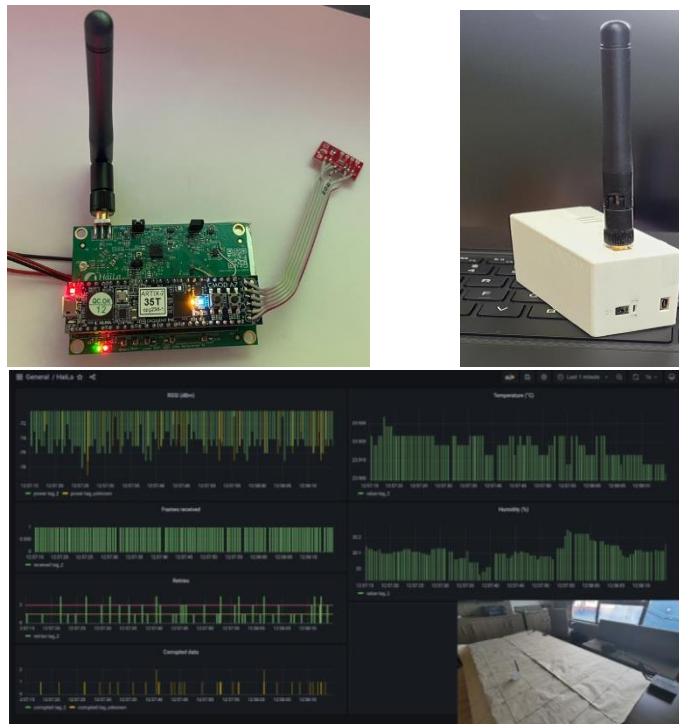

Figure 6
- 802.11 compatible backscatter prototype(Figure 6) [15]